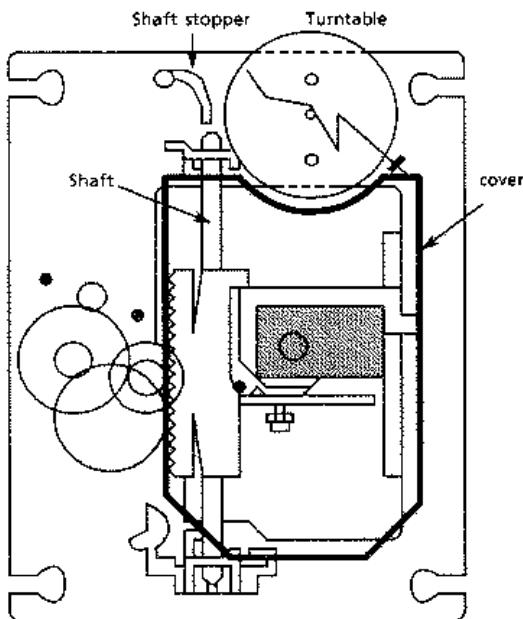

Fig.7 CD mechanism assembly
- Remove the cover on the pickup (Fig.7).